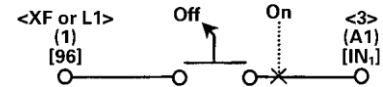

Figure 3
5. For the 2 and 3 position selector switches, make electrical connections as shown in Figures 3, 4, 5, and 6.